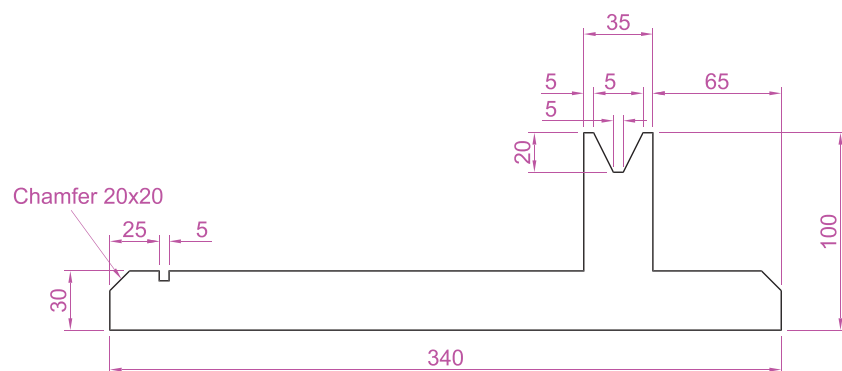

Fig. 13.10 Third example – outline for solid of revolution
3. In the **Front** viewport (top left), construct apline outline to the dimensions in Fig. 13.10.